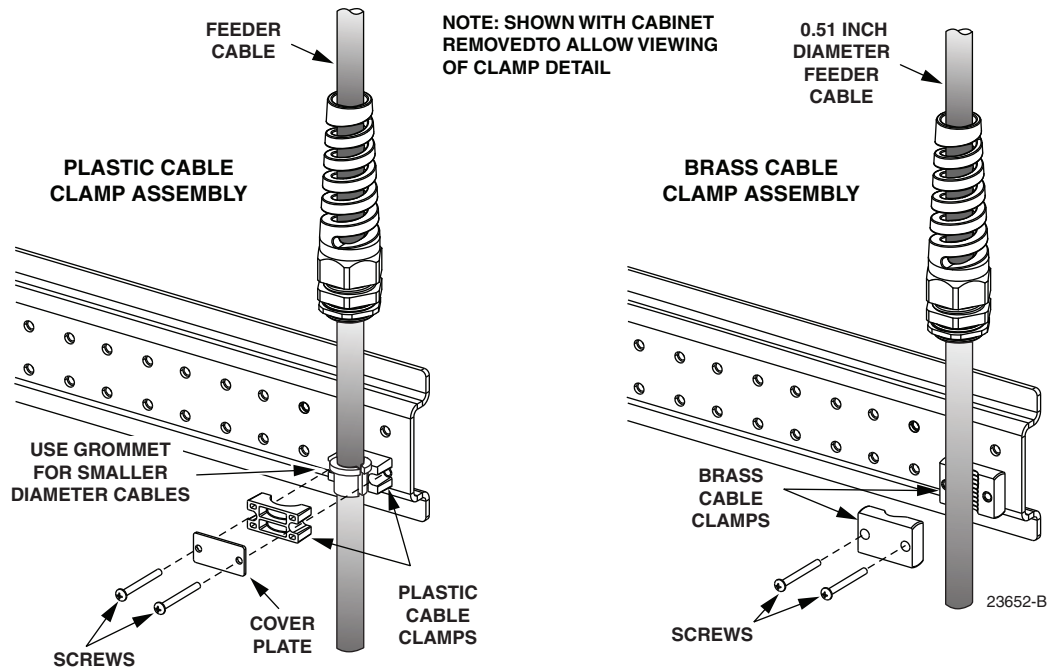

Figure 18. Assembling Feeder Cable Clamps
12. Depending on the cabinet option, either a plastic or brass clamp will be provided with the cabinet. Assemble the cable clamp on the feeder cable as shown in Figure 18.